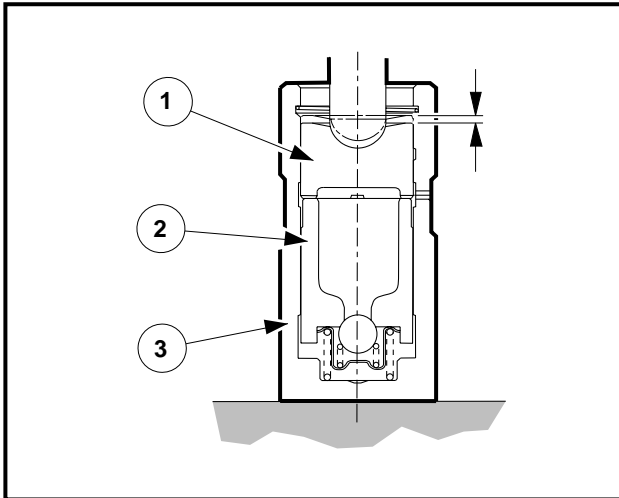

Figure 13-47 Inspect for Hydraulic Lifter Wear
- Do not depress the socket (1) (**Figure 13-47, Page 13-26**). This will cause the engine oil to leak out of the high pressure chamber during storage. Keep the hydraulic lifters upright to prevent the engine oil from spilling out of the lifters during storage.
If the engine typically remains noisy for two minutes after it starts, the hydraulic lifter might be worn between the plunger (2) and the body (3). Proceed with the following to check the hydraulic lifter for wear (**Figure 13-47, Page 13-26**).
2. Push the socket (1) down and measure the distance that it sinks (**Figure 13-47, Page 13-26**).